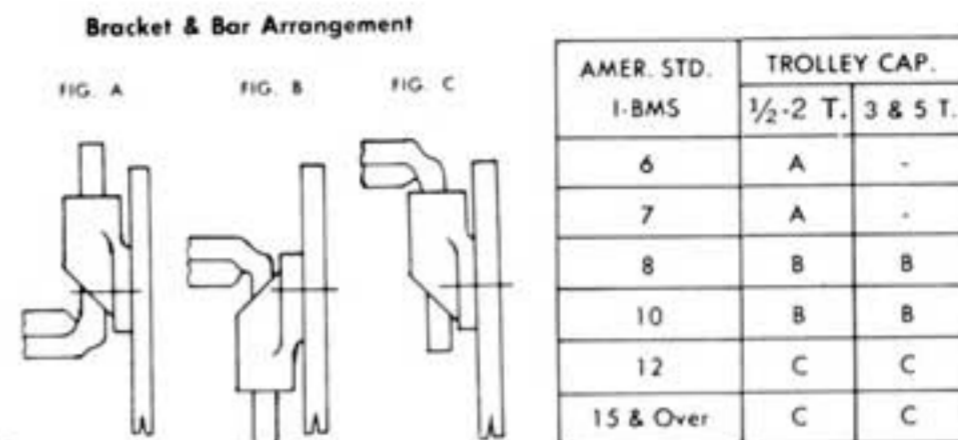

FIGURE 3
2. Refer to Figure 3 to determine the proper mounting position for the collector bar and bracket.
6. Again refer to Figure 3; position the collectors on the bar as shown.